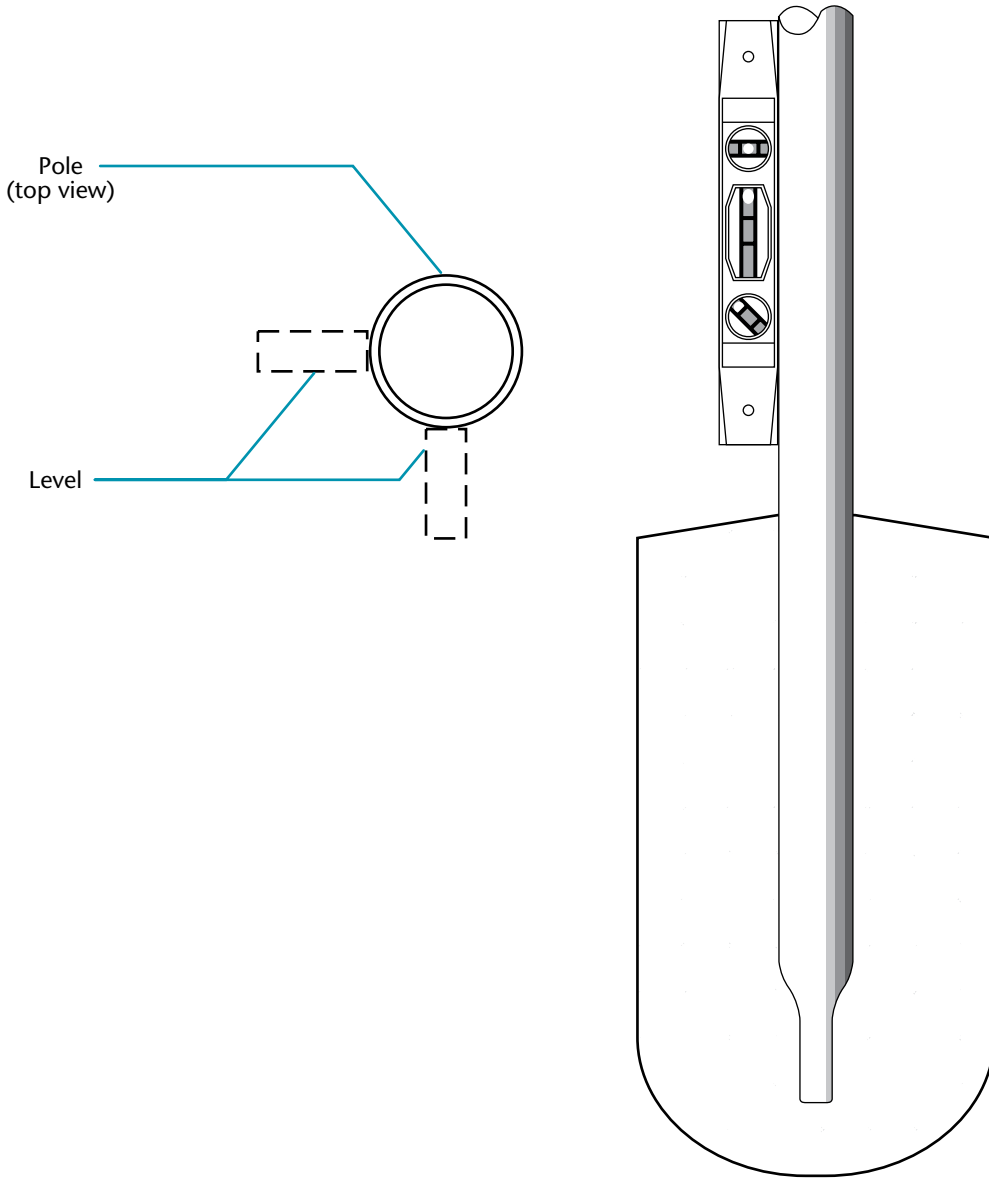

Figure 4-25. Leveling the pole
- Using a bubble level, plumb the pole in at least two different locations on the side of the pole, as shown in figure 4-25. These two measurements should be at right angles to each other. When the pole is plumb, secure it with the rocks, or attach guy wires to hold it upright.